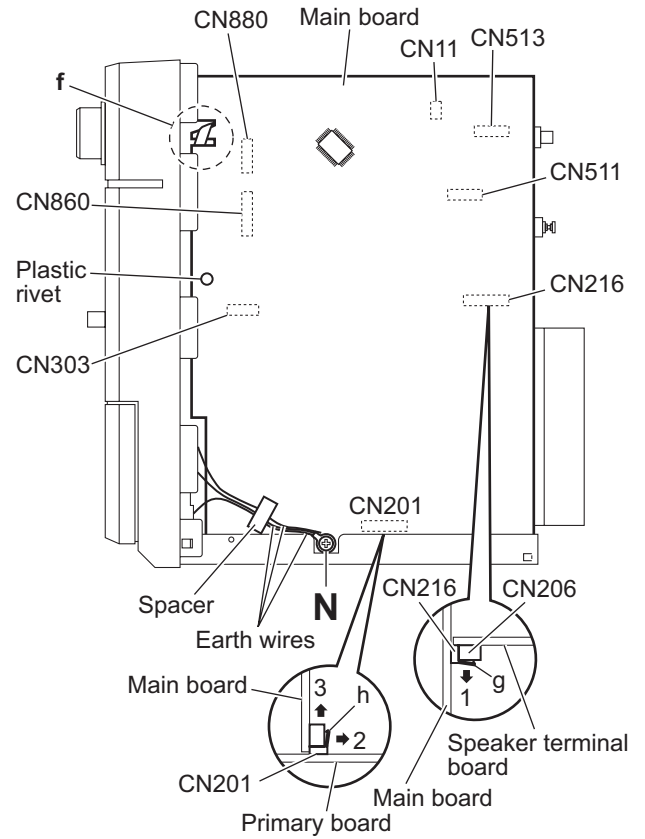

Fig.14
### 3.1.7 Removing the main board (See Figs.14 and 15)
- (1) From the right side of the main body, remove the screw **N** attaching the earth wires on the reverse side of the main board. (See Fig.14.)
After attaching the earth wires, fix them with a spacer as before. (See Fig.14.)
- (2) Remove the plastic rivet attaching the main board. (See Fig.14.)
- (3) From the inside of the main body, disconnect the card wires from the connectors (CN11, CN303, CN511, CN513, CN860, CN880) on the forward side of the main board. (See Figs.14 and 15.)
When reassembly, pass the card wire through the section **f** of the main board before connecting the card wire to the connector **CN11**. (See Fig.14.)
- (6) Release the lock **g** of the connector **CN216** on the main board in the direction of the arrow 1 and disconnect the main board from the connector **CN216** on the speaker terminal board toward this side. (See Fig.14.)
When releasing the lock **g**, take care not to break it. (See Fig.14.)
- (7) Release the lock **h** of the connector **CN201** on the primary board in the direction of the arrow 2 and disconnect the main board from the connector **CN201** in the direction of the arrow 3. (See Fig.14.)
When releasing the lock **h**, take care not to break it. (See Fig.14.)